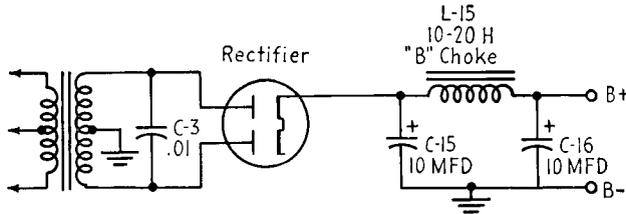

FIG. 21-11. Filter circuit in the vibrator-type power supply.
**Auto radio B filter circuits.** Some auto radio power supplies use a standard L-C filter circuit to smooth the rectifier output. It consists of a small B choke and two electrolytic condensers, as shown in Fig. 21-11. The input and output filter condensers are usually rated at 10 mfd/300 volts. The choke usually has an inductance of 10 to 20 henrys. Auto radio receivers do not use the field of an electrodynamic speaker as a B choke. The speakers in these radios are either of the P-M dynamic type or, when electrodynamic units are used, the field winding is a 4- to 6-ohm coil, which is fed by 6 volts DC from the heater line.